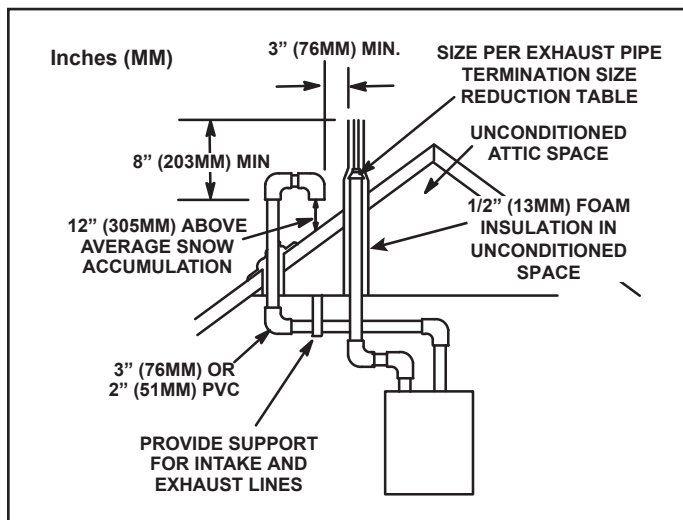

Figure 23. Direct Vent Roof Termination
Intake and exhaust pipes may be routed either horizontally through an outside wall or vertically through the roof. In attic or closet installations, vertical termination through the roof is preferred. Figure 23 through Figure 34 show typical terminations.
1. Intake and exhaust terminations are not required to be in the same pressure zone. You may exit the intake on one side of the structure and the exhaust on another side (Figure 23). You may exit the exhaust out the roof and the intake out the side of the structure (Figure 24).